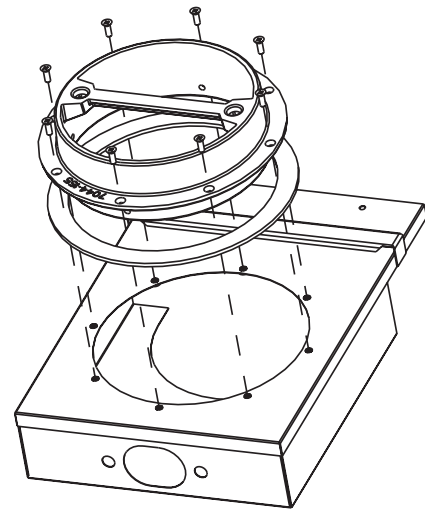

Figure 18.2
1. Remove the cast iron flue collar from the appliance and flip it upside down. Using the larger #7 drill bit supplied, drill through all 8 countersunk locations (**Figure 18.2**).
3. Adjust the offset adapter to desired distance. Drill holes through the lower chamber as shown in **Figure 18.2** using the small drill bit #26 provided.